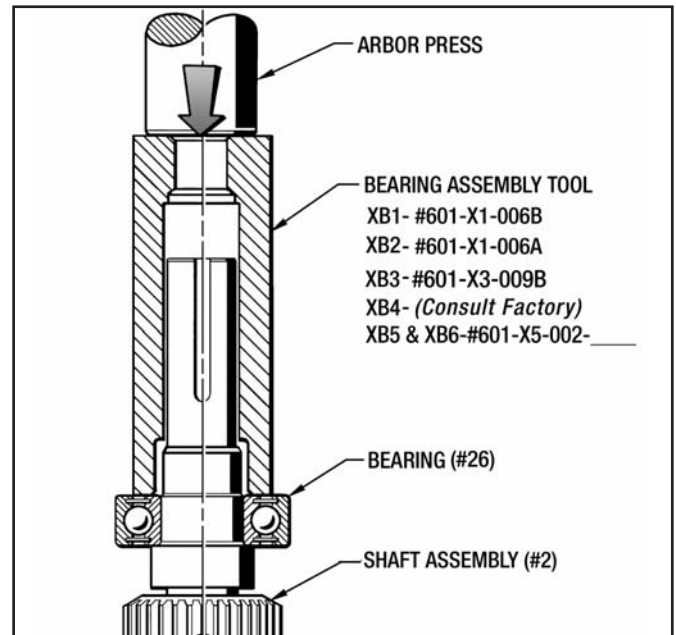

Figure 9.3 - Installing Bearing (#26) in a Coupler Brake
1. Install the Bearing (#26) on to the Shaft Assembly (#2) with an Arbor Press and the appropriate Assembly Tool as shown in Figure 9.3. **Make sure the Bearing is completely seated on the shaft shoulder.**